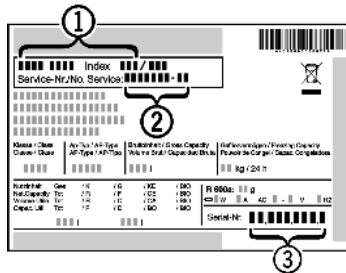

Fig. 7
- Read the appliance designation *Fig. 7 (1)*, service no. *Fig. 7 (2)* and serial no. *Fig. 7 (3)* from the rating plate. The rating plate is located inside the appliance on the left-hand side.
- Notify a qualified service provider, specifying the fault, appliance designation *Fig. 7 (1)*, service no. *Fig. 7 (2)* and serial *Fig. 7 (3)* no.